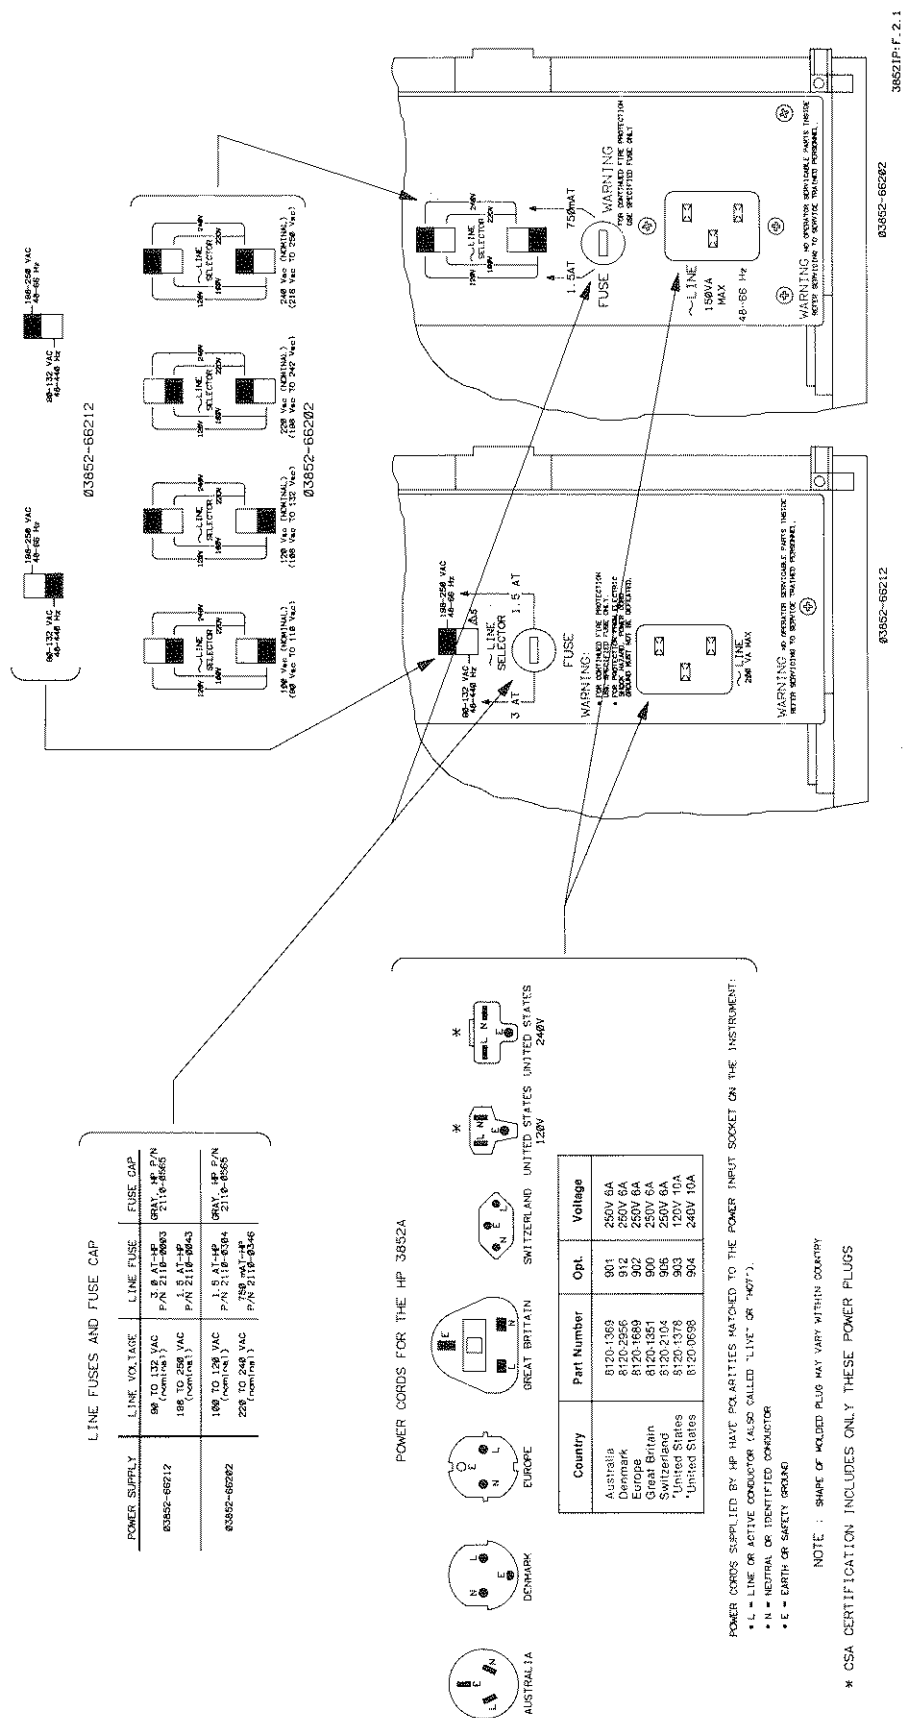
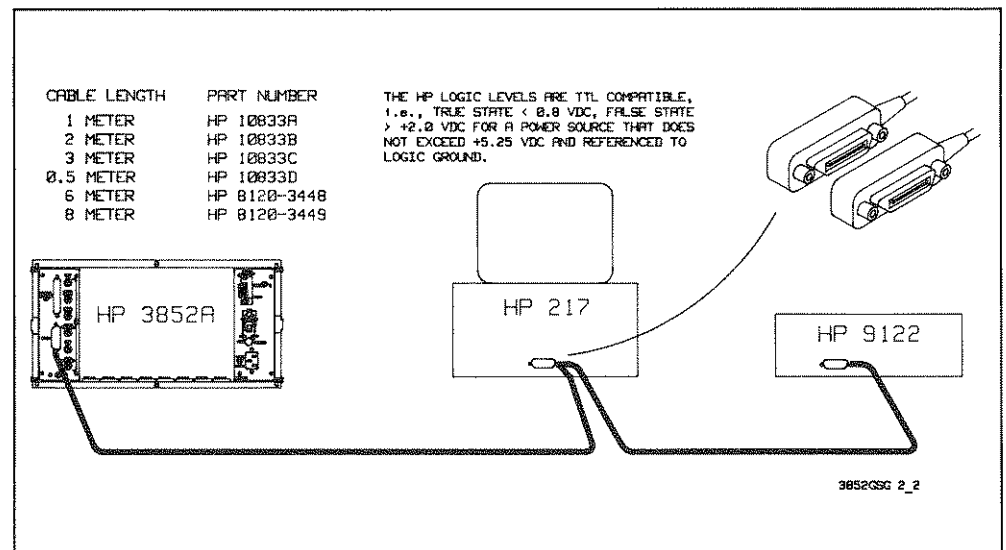

Figure 2-1. Fuse/Line Selector/Line Plug Locations
Figure 2-2. Typical HP-IB Connections
Setting up the HP 3852A for initial operation is quite simple. All you need to do is to check the LINE SELECTOR switch setting, install a fuse, and connect the AC line cord and HP-IB cable. See Figure 2-1 for switch, fuse, and line plug locations. See Figure 2-2 for typical HP-IB connections.
*Figure 2-1 shows LINE SELECTOR, FUSE, and LINE cord locations for two versions of the HP 3852A. HP 3852As with power supply part number 03852-66212 were shipped after 1 December 1987, while HP 3852A with power supply part number 03852-66202 were shipped before 1 December 1987. Use the applicable diagram in Figure 2-1 for your instrument.*
Make sure the LINE SELECTOR switches are set for your line voltage. If they are not, use a flat-bladed screwdriver to move the switch(es) to the correct position. See Figure 2-1 for switch location and settings.
The line fuse holder (FUSE) is located below the LINE SELECTOR switch(es) (see Figure 2-1). For HP 3852A mainframes with power supply part number 03852-66212, install the 3.0 AT fuse for operation at 90-132 Vac or install the 1.5 AT fuse for operations at 198-250 Vac. For HP 3852A mainframes with power supply part number 03852-66202, install the 1.5 AT fuse for operation at 100-120 Vac or install the 750 mA fuse for operation at 220-240 Vac.
Be sure you received the correct power cord for your AC line voltage requirements. (See Figure 2-1 for power cord descriptions by country.) Set the LINE switch on the front of the HP 3852A to the "O" (OFF) position. Plug the cord into the LINE plug, but don't connect the cord to your AC power yet.
If you plan to program the HP 3852A from a controller over HP-IB, connect the HP-IB cable to the HP-IB port on the left rear panel of the HP 3852A and tighten the connector to the port with the thumbscrews. Then, connect the other end of the HP-IB cable to your controller. Figure 2-2 shows typical connections to an HP 9000 Series 200 controller. See your controller manual for connections to the controller.